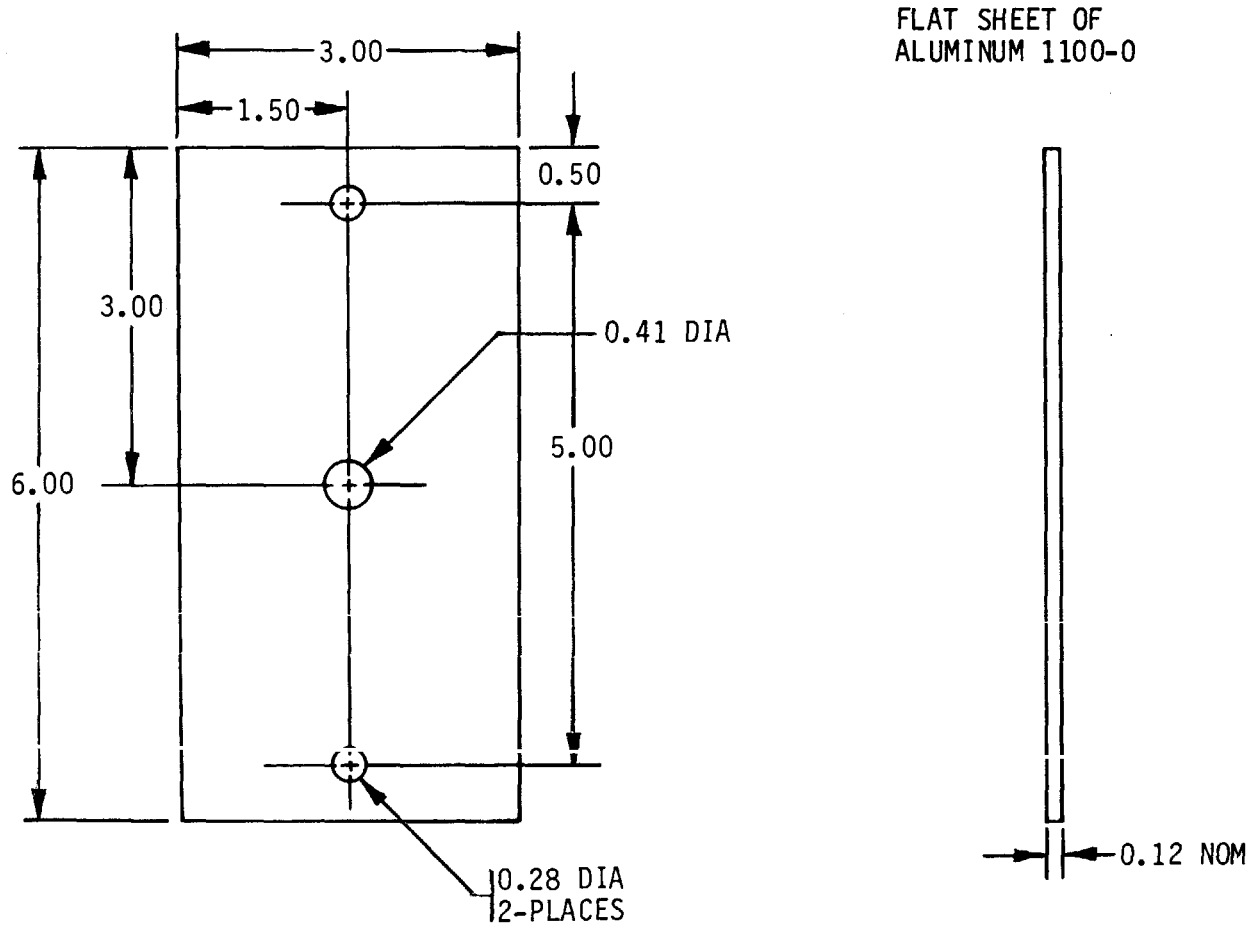

Figure 5. Dimensions for plate 7551848.
(13) Using aluminum plate per spec QQ-A-250/1, fabricate four plates (7551848) in accordance with figure 5.